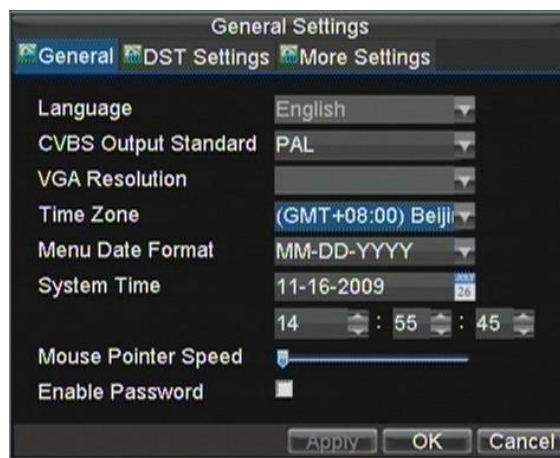

Figure 1. General Settings Menu
1. Enter the General Settings menu, shown in Figure 1 by clicking Menu > Setting > General.